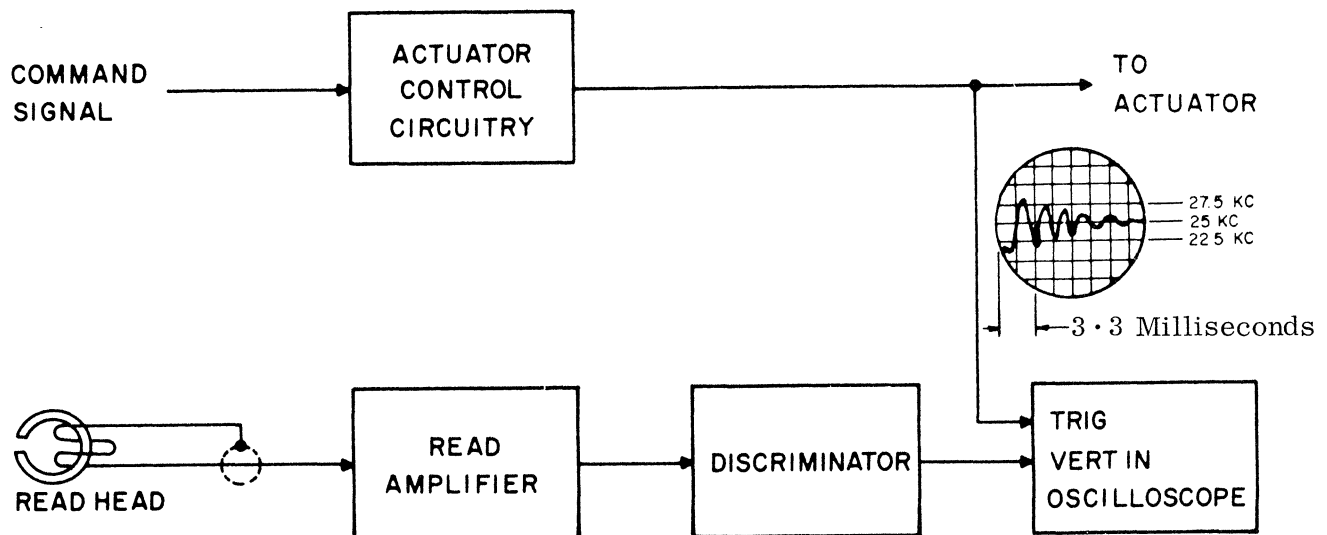

Fig. 4.12
- Step 6. Adjust the UPPER servo transducer for a -10 ± 1 vdc meter reading. Adjustment is made with either a screw or a knob, depending on the type of transducer, as shown in Figure 4.12.